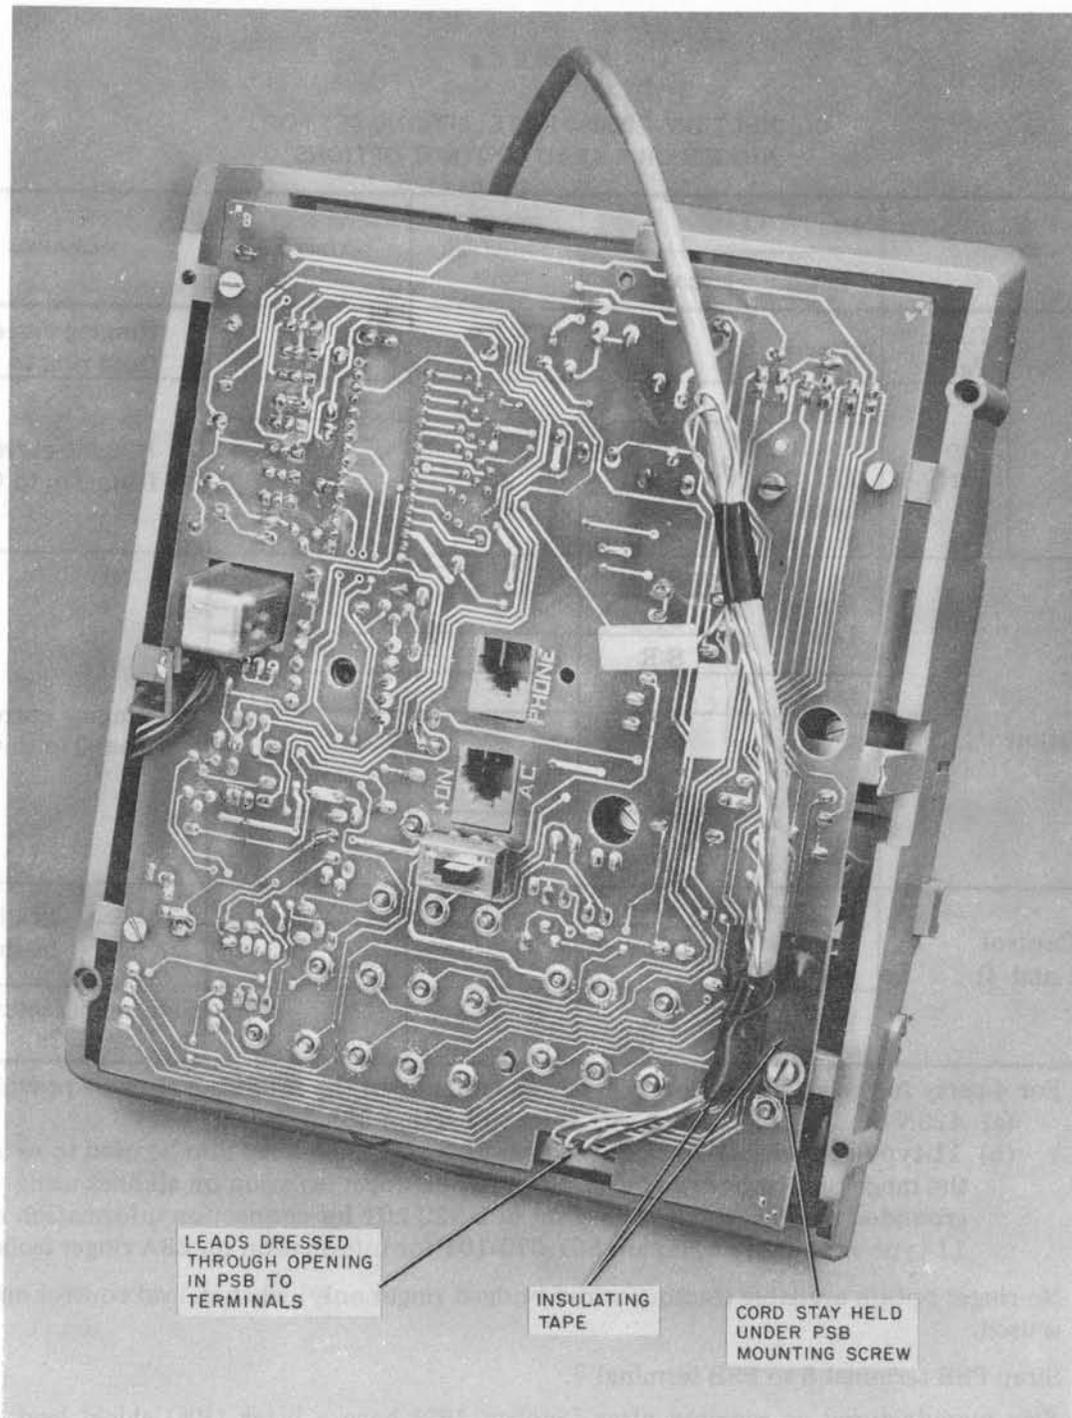

Fig. 14—Bottom of Set With Lower Housing Removed Showing an Adjunct Cord Dressed Across Power Supply Board (PSB)
used to fasten the power supply board to the bottom of the chassis (Fig. 14). Proper precautions must be taken so that the stay band and hooks do not short any circuit paths. Insulating tape should be placed around the cord and stay band and also applied to the power supply board under the cord (Fig. 14).
8.03 A rectangular cutout at the right front edge of the power supply board provides access for dressing individual spade-tipped leads to the appropriate screw terminals on the power supply circuit board (Fig. 14).
2.03 A rectangular cutout at the right front edge of the power supply board provides access for standard industrial grade-type leads in the appropriate screw terminals on the power supply circuit board (Fig. 14).
and to locate the power supply board to the bottom of the chassis (Fig. 14). Your attention must be taken so that the stay lead and hooks do not short any circuit parts. Insulating tape should be placed across the cord and stay lead and also applied to the power supply board under the cord (Fig. 14).